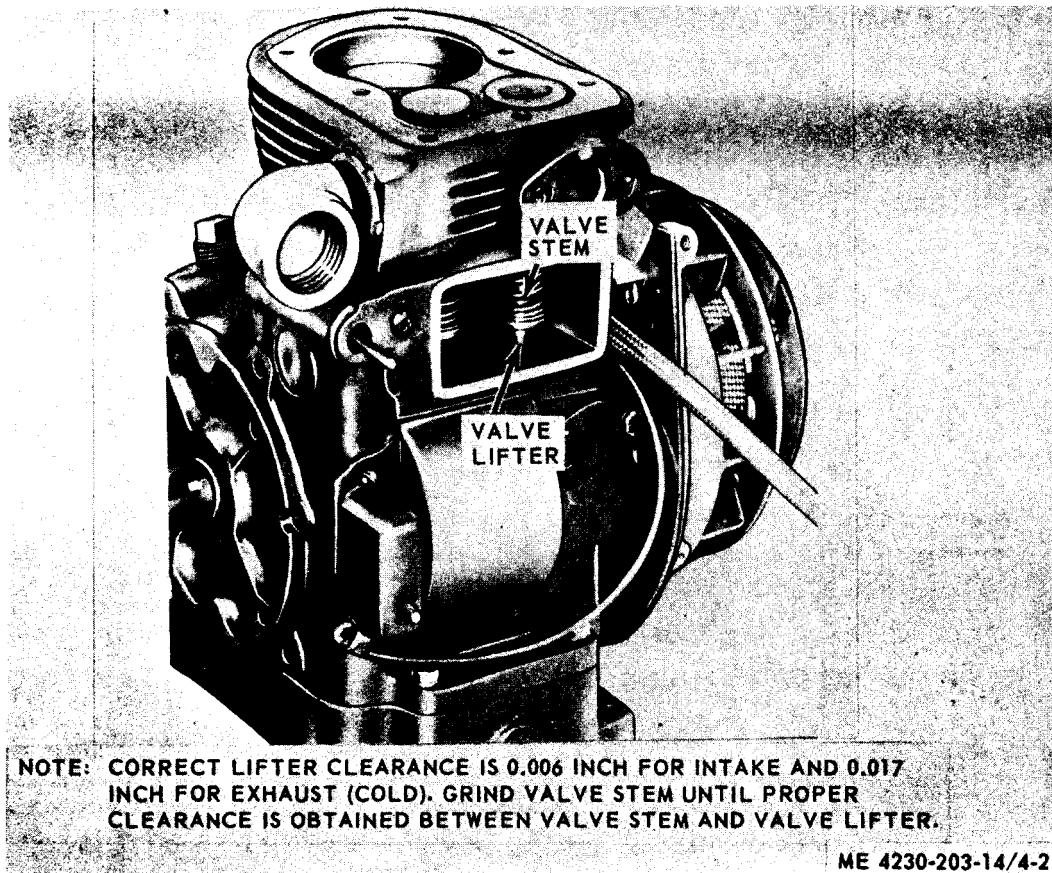

Figure 5-2. Valve adjustment.
- (2) Refer to figure 5-2 and adjust the valves.
- (3) Install the valve inspection cover (para 4-16).
- (4) Install the cylinder head (para 4-19).